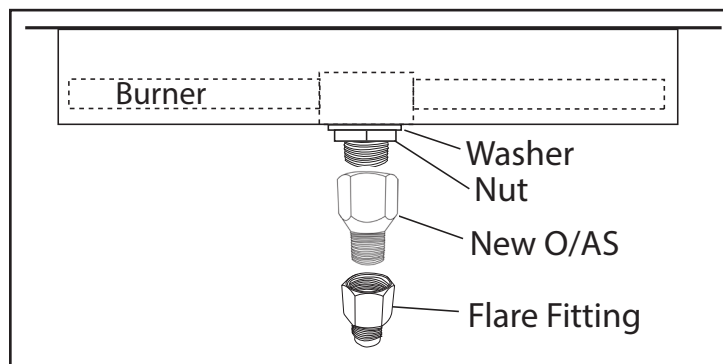

Fig. 2 Installing new Natural gas orifice
11. Install the 1/2" NPT Female to Male flared to the new OAS-LP# (See figure 2).